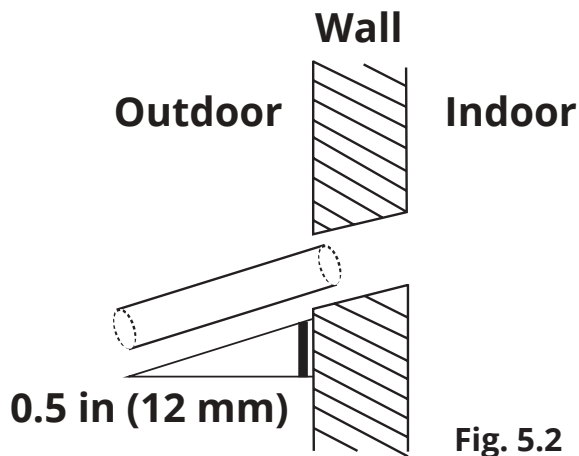

Fig. 5.2
2. Next, using a 3.5 in (90 mm) core drill, drill a hole into the wall to allow the drain pipe to be routed to the exterior of the building. When drilling the hole, be sure to drill it at a slightly downward angle, so that the outdoor end of the hole is lower than the indoor end by roughly 0.5 in (12 mm). This will ensure proper drainage. Please refer to **Fig. 5.2** below as a guide. **NOTE: This hole will also be used to run the refrigerant piping/line set and wiring through that will connect the air handler to the outdoor unit.**